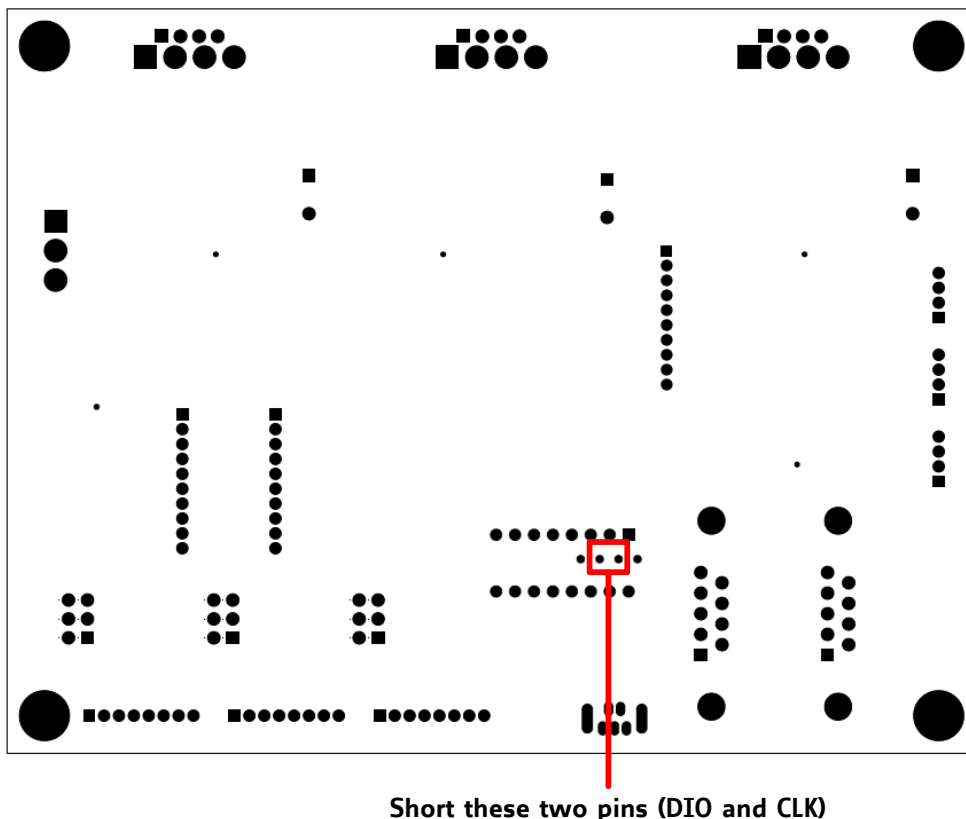

Figure 6.1 Reset pins (bottom view of module)
2. Short two pads as marked in Figure 6.1.